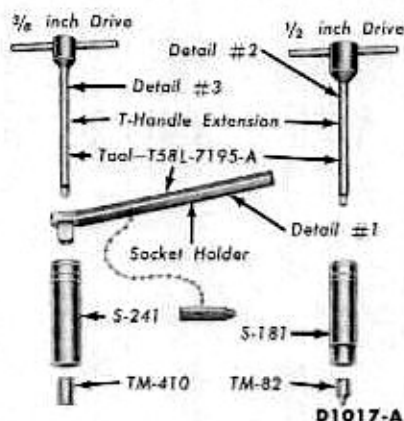

FIG. 8—Front and Rear Band Adjusting Tool
screw. If the tool shown in Fig. 8 is to be used to adjust the front band, the gauge block for this tool should be inserted between the piston stem and the screw.
With the tool shown in Fig. 8 install the socket handle on the $\frac{9}{16}$ -inch socket. Insert the T-handle extension through the socket handle and socket, and install the screwdriver socket on the T-handle exten-
3. Place the socket holder on the $\frac{3}{4}$ -inch socket (Fig. 8). Insert the T-handle extension through the handle and socket.